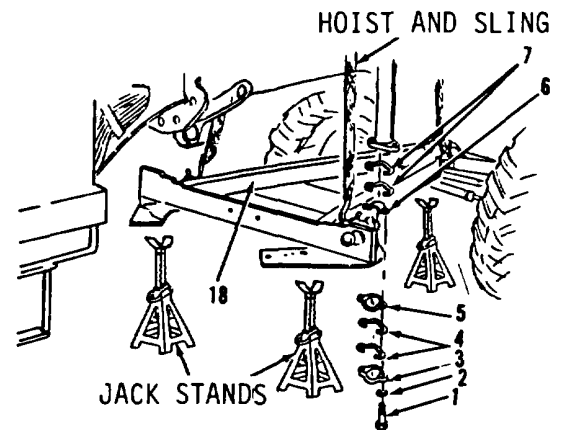

Figure 12-16.
5. Raise drawbar (18) into mounting position.
6. Install two bolts (10), four washers (9) and bolts (8) in cap (17) at front corner of drawbar (18).
8. Install two shims (7), inserts (6 and 5), two shims (4), cap (3), two washers (2) and bolts (1) in rear corners of drawbar (18, Figure 12-16).